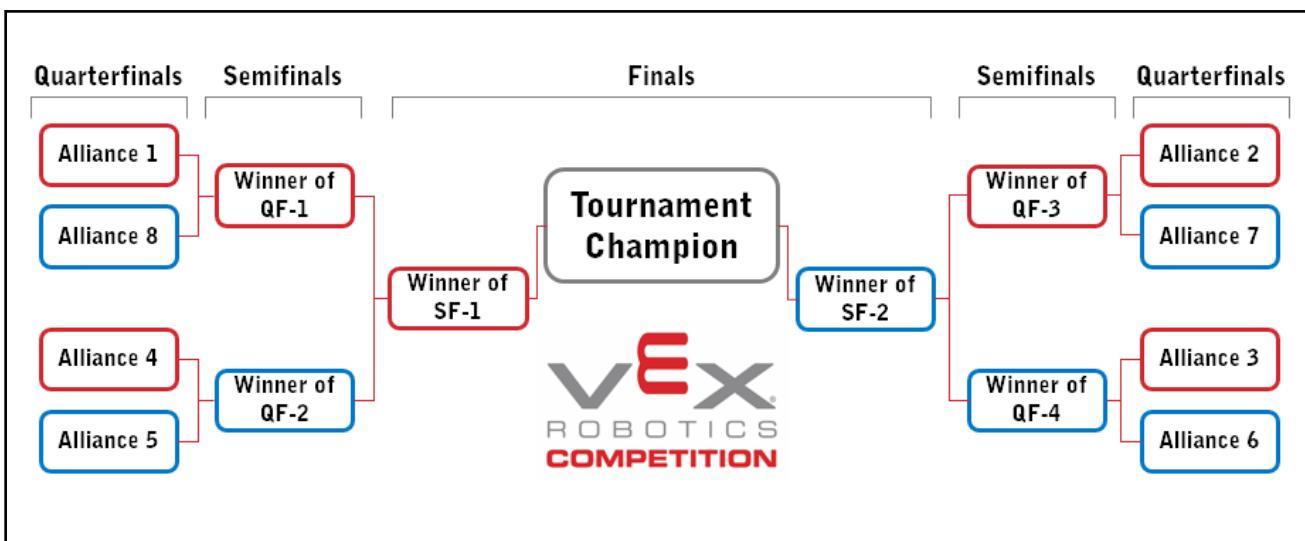

Figure 28: An 8-alliance bracket
Thus, an eight (8) Alliance bracket would run as shown in Figure 28, bypassing the Round of 16:
**<T19> Small tournaments may have fewer Alliances.** Events (or divisions within an event) with 32 or more Teams must use 16 two-Team Alliances for *Elimination Matches* as shown in Figure 28. Events with fewer than 32 Teams (i.e., the requisite amount for 16 full Alliances) must limit the number of Alliances by dividing the number of Teams by two, less any remainder.